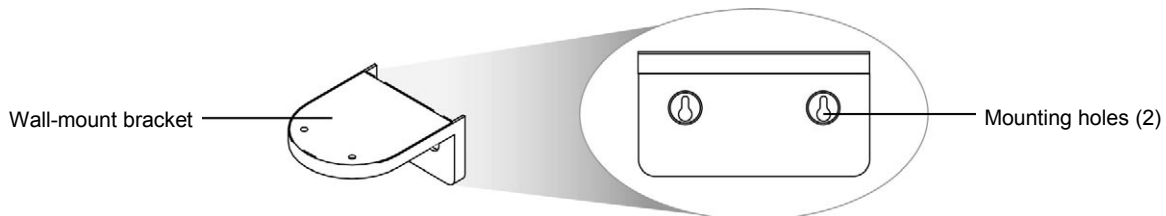

Figure 3. Mounting holes of the wall-mount bracket
- 2) Mark the position of the mounting holes (see Figure 3).